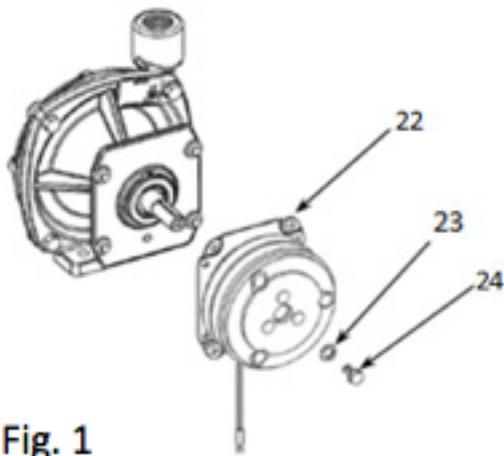

Fig. 1
- **Pulley Driven** - Mount pulleys as close to pump and motor engine shaft bearings as possible. Check alignment with a straight edge as shown in Fig. 1.
- On the following pumps, clutch replacement can be performed by removing bolt item24, washer item23 & clutch base item22, refer Fig 1.